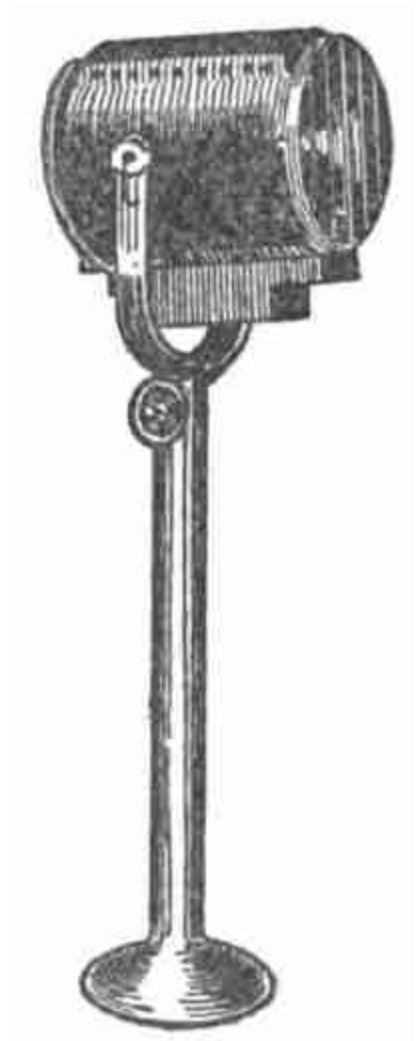
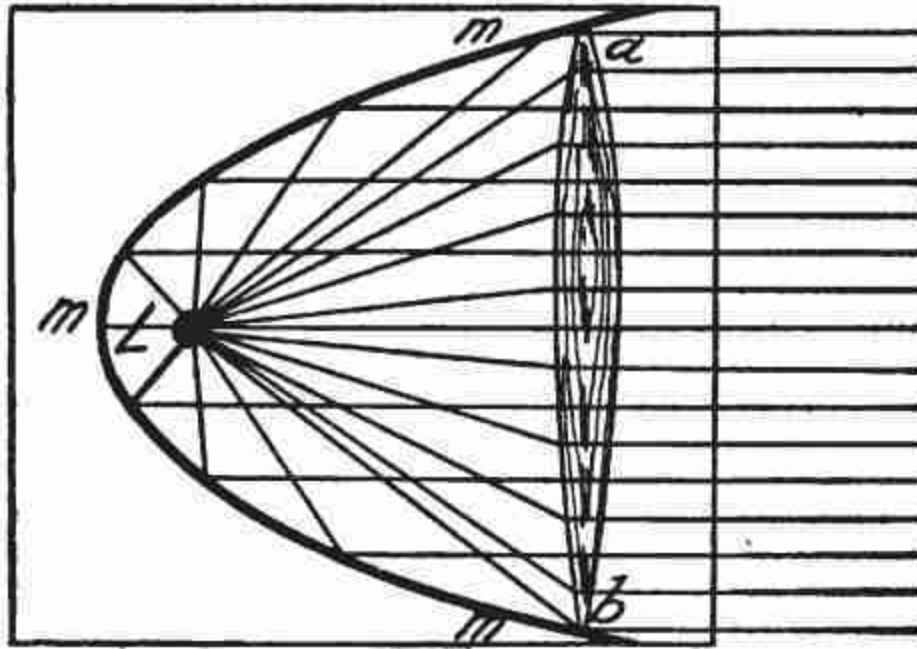

Fig. 102
Fig. 103
24. *Search-Light*.—(Fig. 102). This is simply an arc lamp with reflectors behind it and lenses in front of it. The whole apparatus is pivoted so as to be easily made to shine in any direction. The function of the lenses and the reflectors is to collect stray rays of light and send them all out in the same direction. This is shown in Fig. 103 where for simplicity the lens is represented as a single piece. L represents a point of light which will naturally send its rays out in all directions as the radii of a sphere; m, m, m represents a bright reflecting surface which is given that peculiar curve called a parabola. It has the unique faculty of reflecting in a parallel direction all the rays which may fall upon it from L , so long as L is kept at that particular point called the focus, $a b$ is a lens of glass which has that peculiar curve that enables it to bend all rays which fall upon it from L , so that they may pass out parallel.
26. *Burglar's Flash-Light*.—There are many forms of this. The one we examined is represented in Fig. 104. We unscrewed a metal ring at the left-hand end and found, first a glass lens and behind that a miniature electric light, requiring three volts and half an ampere. We knew, therefore, that it must be supplied with two cells, since one cell may give not more than 1.5 volts. We also knew that it would only be used to *flash* a light, since if dry cells are required to furnish half an ampere continuously they soon run down. Behind the lamp there was a bright metal reflector—the lens and reflector are fairly well represented in Fig. 103. The filament of the lamp is connected with two small battery cells in the handle. These may be removed and replaced by new ones by unscrewing a cap at the right-hand end. The circuit is closed by a metal spring on the side of the tube, which acts as a push button. It is situated where it may be conveniently pressed by the thumb. The small batteries necessarily have a short life and must be replaced quite frequently. Being a special thing they cost nearly twice what the regular dry cell does.